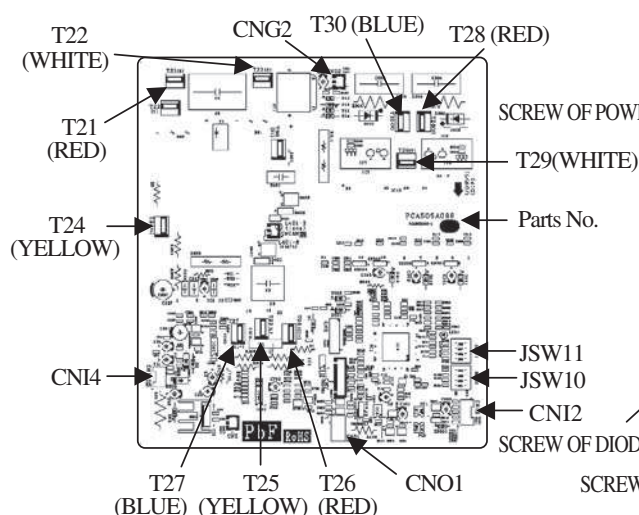

Fig. 1 Parts arrangement view
- Take off the connection of inverter PCB terminal and connector, and remove the screw of power transistor (IC10), active filter (IC2), and diode stack (DS1) then remove the PCB. Wipe off the silicon grease neatly on the controller's radiation heat fins. (Refer to Fig.1 and 2)